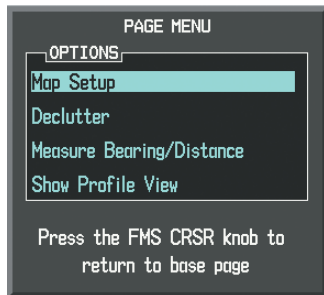

Figure 6-123 Navigation Map Page Menu
- 3) With 'Map Setup' highlighted, press the **ENT** Key (Figure 6-123).